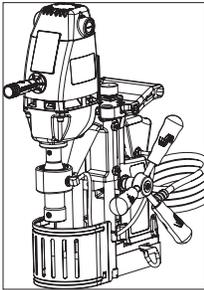
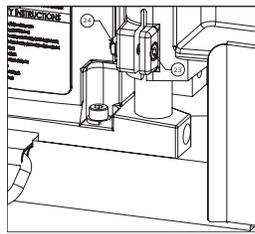

Figure 13
Figure 14
1. The rail system may require adjustment after machine has been in service. Using feed handles, position motor/slide assembly in the full up position. **(Figure 13)** Using supplied 3mm hex wrench, slightly turn the two M6 X 10 adjustment screws equally on each of the two guide rods clockwise to increase rail tension, or counterclockwise to decrease rail tension. **(Figure 14)** Again using feed handles, position motor/slide to down position and insure even adjustment throughout travel. Do not over tighten adjustment screws as excessive rail tension can damage the machine. Properly adjusted, the motor/slide assembly should have no side-to-side movement and will remain where positioned without drifting.